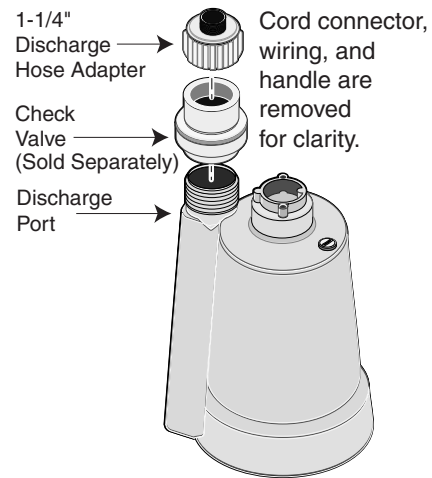

Figure 1 – Discharge assembly.
3. Install a check valve between the pump discharge port and the discharge hose adapter to prevent backward flow through the pump when the pump shuts off. See Figure 1.